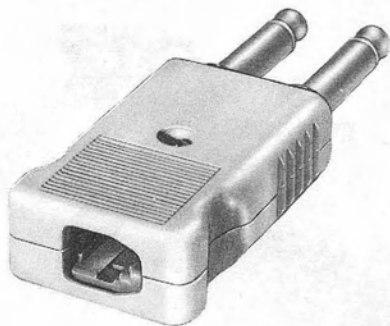

Fig. 45—478-Type Plug
3.04 The 478A plug (Fig. 45) is a flexible twin-double conductor plug. It contains a